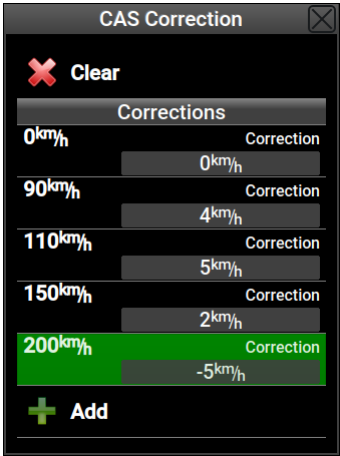

Figure 80: An example of the CAS correction table.
2. Enter points as shown in the Figure 80.